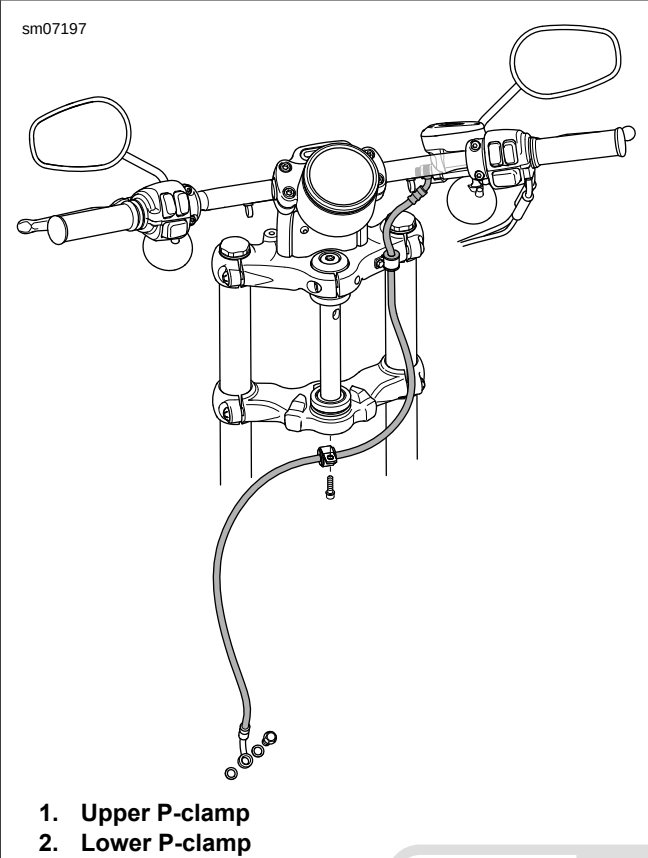

Figure 2-129. Brake Line Routing: XL 1200CP/CA w/ Drag Bar
1. See Figure 2-129. Fit the upper and lower clamps to the brake line grommets.